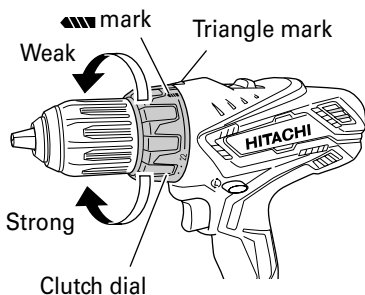

Fig. 9
5. Confirm the clutch dial position (See Fig. 9). The tightening torque of this unit can be adjusted according to the clutch dial position, at which the clutch dial is set.
(2) Tightening torque indication (See Fig. 9)
(3) Adjusting the tightening torque (See Fig. 9)